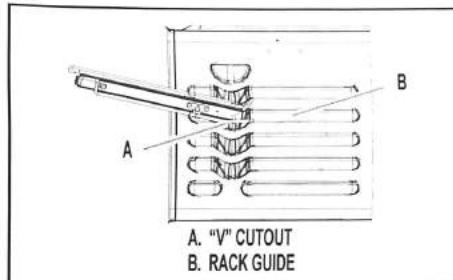

FIGURE 2
10. Angle the rack assembly up and insert the back edge into the "V" cutout in the rack guides of the oven cavity. See Figure 2.